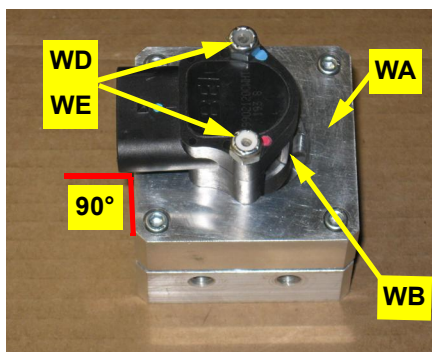

Figure 1a: Mounted WAS wire connector
- a. Using the provided hardware **WD** and **WE**, attach the WAS wire connector **WB** to the WAS housing **WA**. Install the bolts up through the bottom of the housing. Mount **WB** at 90° to any of the WAS housing **WA** sides (Figure 1a).